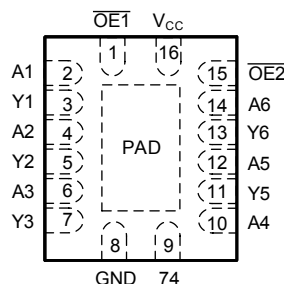

Figure 4-2. Pin Diagram (PW TSSOP (16) Package)
4.2 BQB WQFN (16) Package
Figure 4-2 shows the SN74HCS365-Q1 pin diagram for the BQB WQFN (16) package. For a detailed description of the device pins, see the *Pin Configuration and Functions* section in the SN74HCS365-Q1 data sheet.